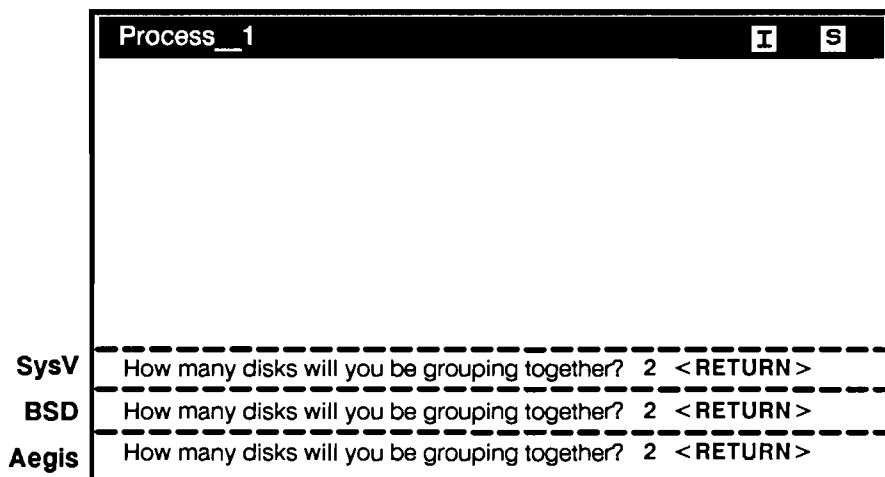

Figure 6-21. *invol* Prompt for Total Disks in Set
6. Next, **invol** prompts for the number of disks to include in the set as shown in Figure 6-21.